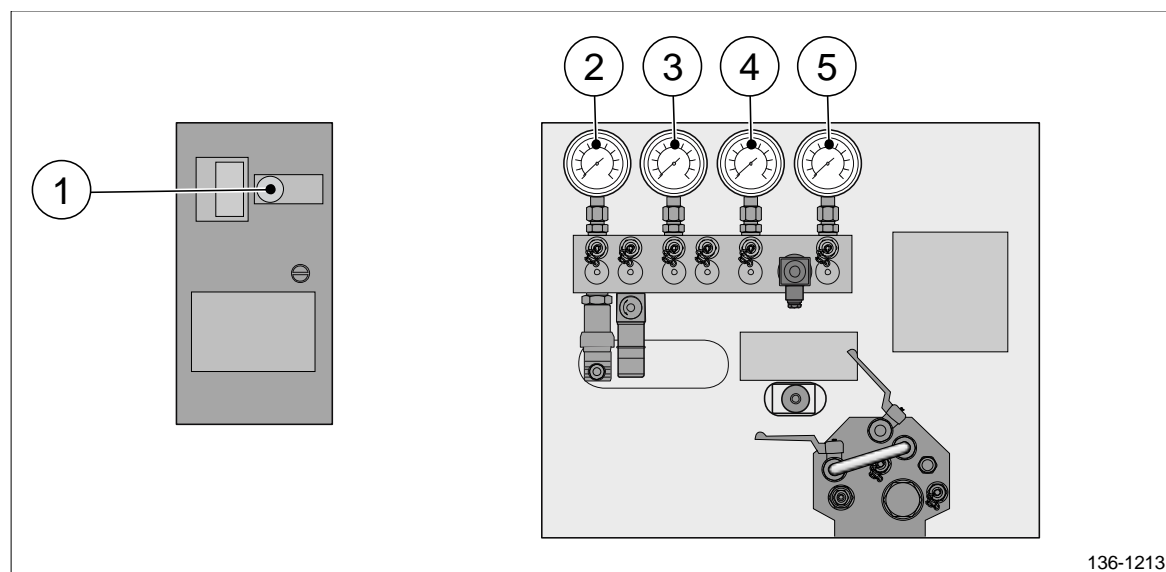

Figure 2 Oil pressure gauges located on the hydraulic power pack control panel.
10. Use the pressure gauges (figure 2) to inspect the oil pressure. For maximum pressure values see Hydraulic Diagram drawing.
11. Inspect the static pressure on gauge G5. Make sure that the pressure corresponds with the pressure values stated on the Hydraulic Diagram drawing. (pos 5, figure 2)